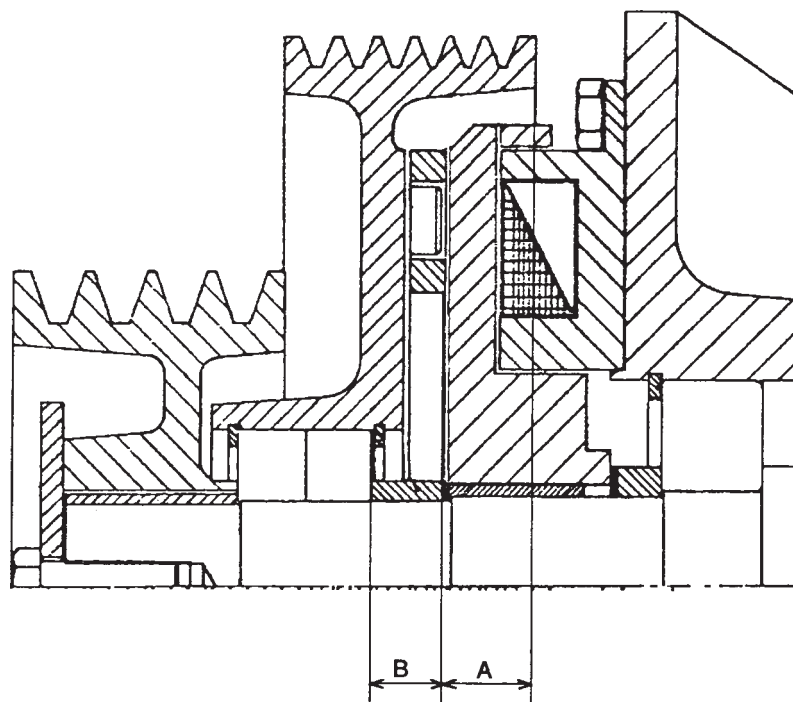

Figure 19. Measuring the spacer washer
- measure and note the distance from the outer edge of the input pulley down to the surface for the pressure plate (A) (Fig. 19).
- measure and note the distance from the outer edge of the output pulley down to the inner ring (B) of the rear ball bearing (Fig. 19).